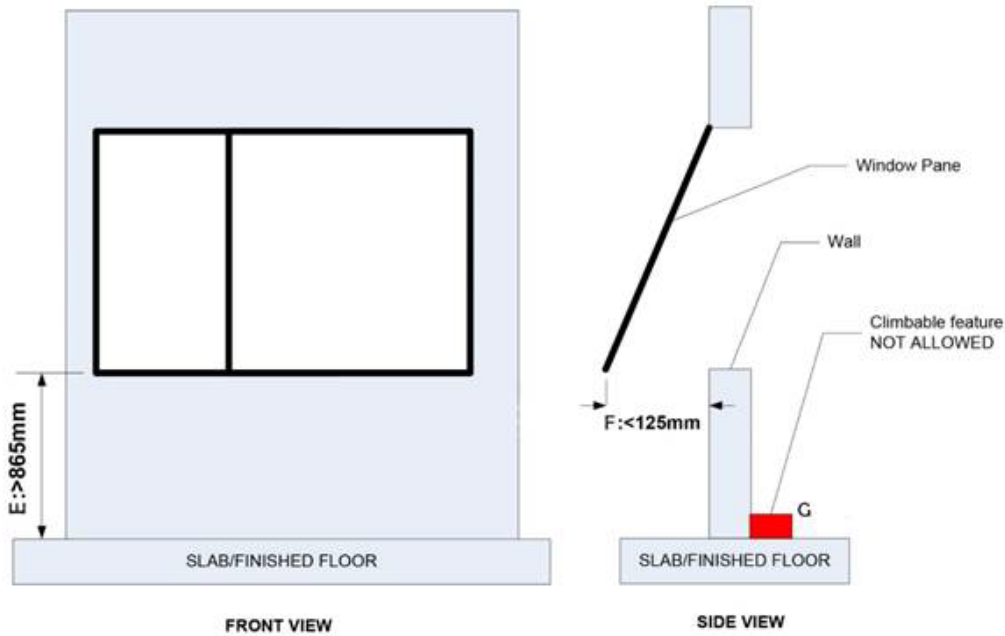

Figure 2 Openable Window Design Parameters
- 3.1 Openable windows shall not be located at a height less than 865mm from the finished floor surface level (E). The minimum height is measured from the finished floor level or highest climbable point. (See Figure 2)
- 3.2 The window pane shall not create a gap more than, 125mm from the wall, when opened (F). (See Figure 2)
- 3.4 There should not be any climbable construction features at the bottom of the window (G). (See figure 2) In case of such feature, minimum height distance of 865mm shall be measured from the highest climbable point. (See Item 3.1)